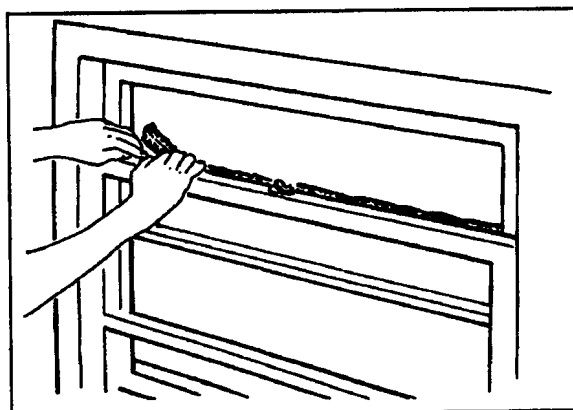

Fig. 21 – Installing Foam Seal
- 22** Cut foam seal (from window mounting kit) to fit window width. Insert foam seal down between top of raised lower sash and glass pane of upper sash (see Fig. 21), making sure there is a tight seal to prevent air seepage and insect entry.